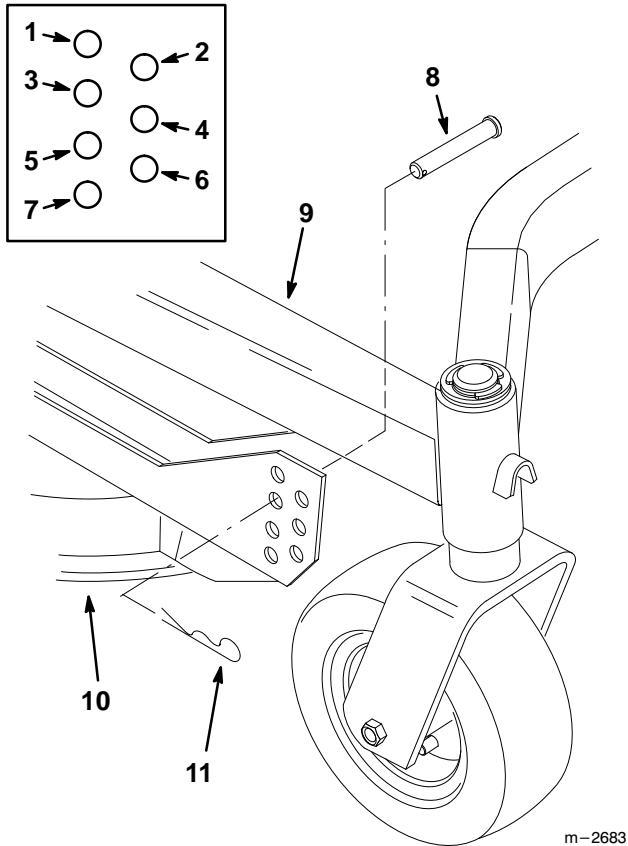

Figure 4
2. Mount the cutting deck to the carrier frame with four (4) clevis pins and hairpin cotters (Fig. 4).
The height-of-cut is adjustable from 1" to 4" (26 to 102 mm), or 2" to 5" (51 to 127 mm) depending on the serial number of the traction unit to which the deck is attached. The height-of-cut is adjustable in 1/2-inch (13 mm) increments by relocating the clevis pins in different hole locations in brackets at each corner of the cutting unit (Fig. 4).